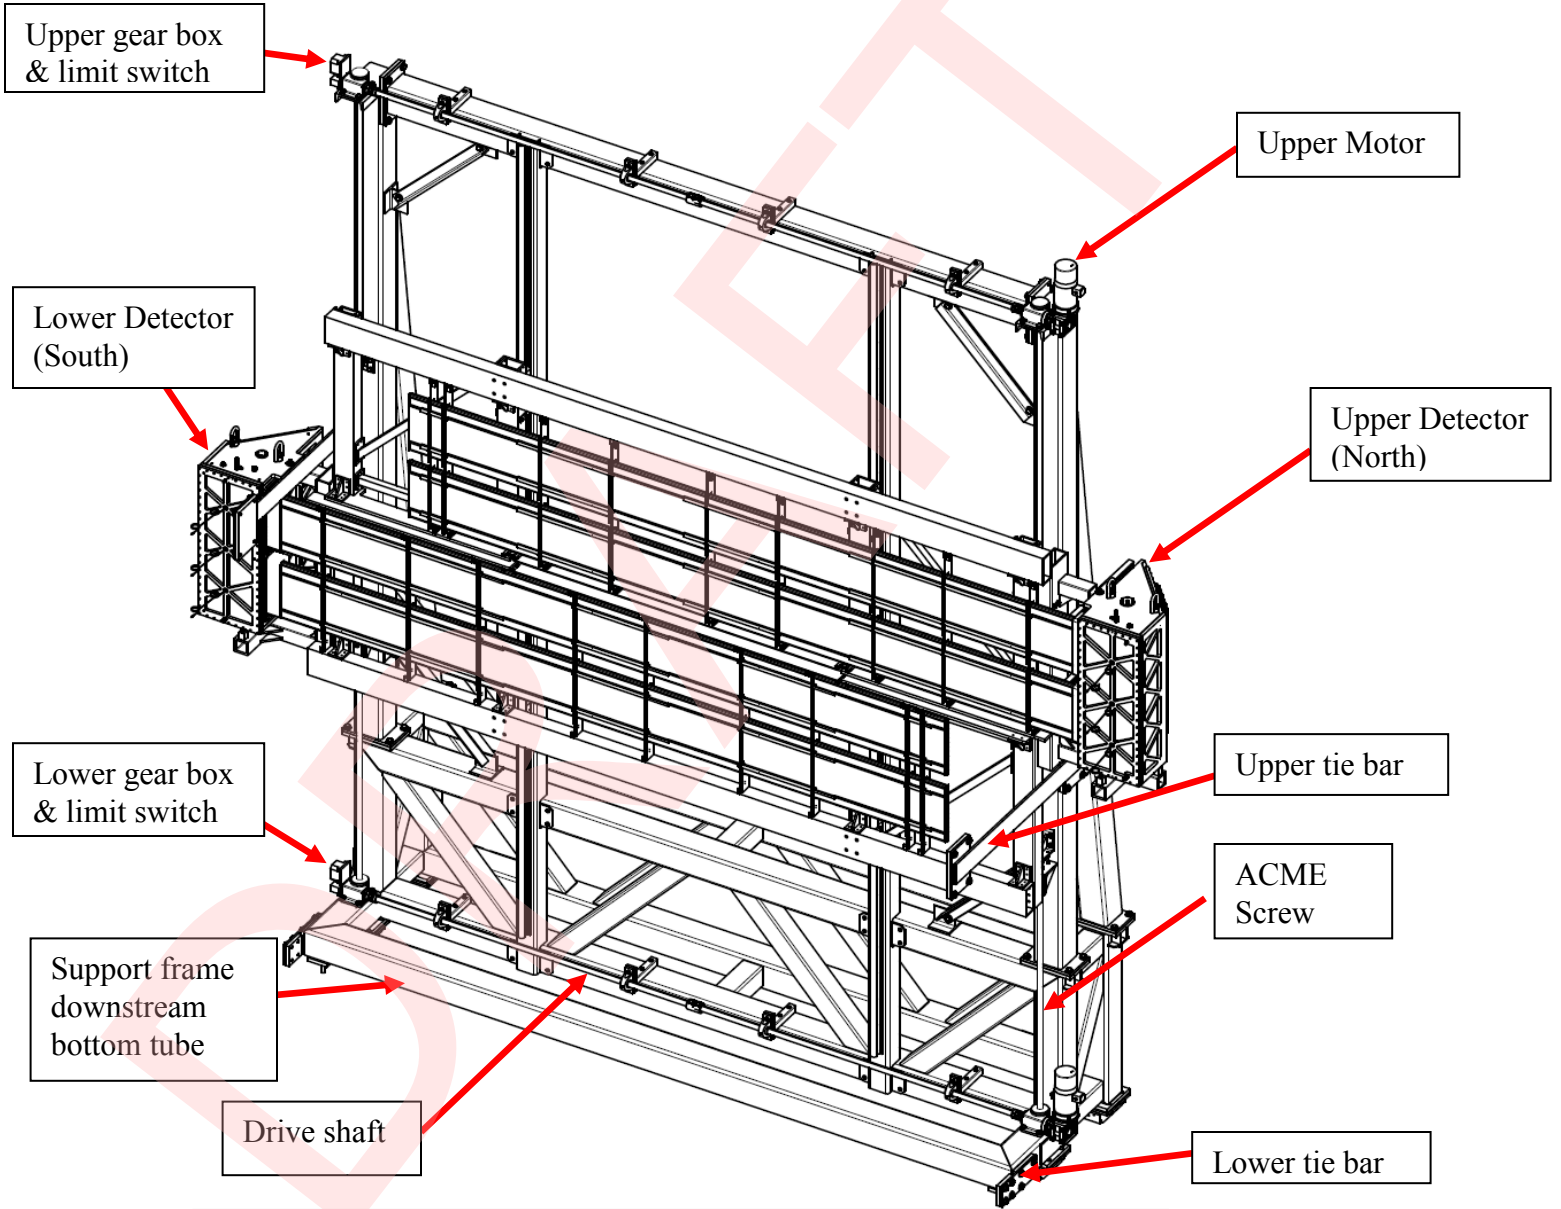

Fig 3 DIRC in Operational Position
- c. Uncouple the FCAL platform and DIRC support structure by removing the 2 upper and 2 lower tie plates (see figs 3 and 4). The overhead crane and man lifts are to be used.